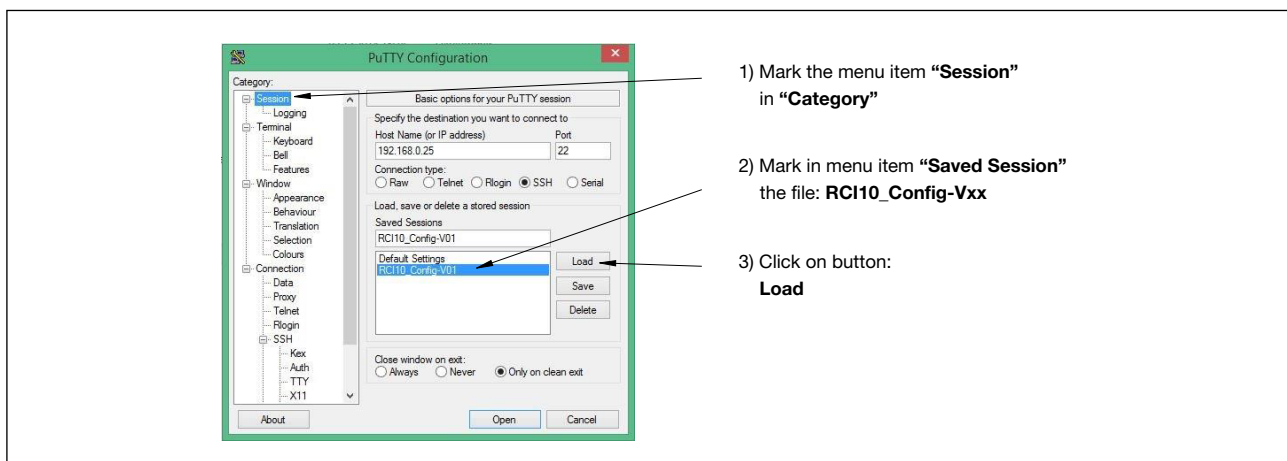

Fig 7: IP configuration *'LePutty'*[®]
1. Start the programme by clicking on the programme icon *Putty*[®]. Carry out the steps 1 to 3 on right side of fig. 7; IP configuration *'LePutty'*[®].
- Mark the menu item **Sessions** in “Category”, see fig. 7, IP configuration LePuTTY top
! If you changed the IP address of the RCI10 sub-assembly, you are no longer able to open the RCI10 SSH surface. For this purpose you need to enter the changed RCI10 IP address also in the *LePutty*® programme, see *LePutty*® window, fig. 7; IP configuration *LePutty*® “Host Name (or IP address)”. Save the change by clicking on the button “**Save**” in the *LePutty*® window.